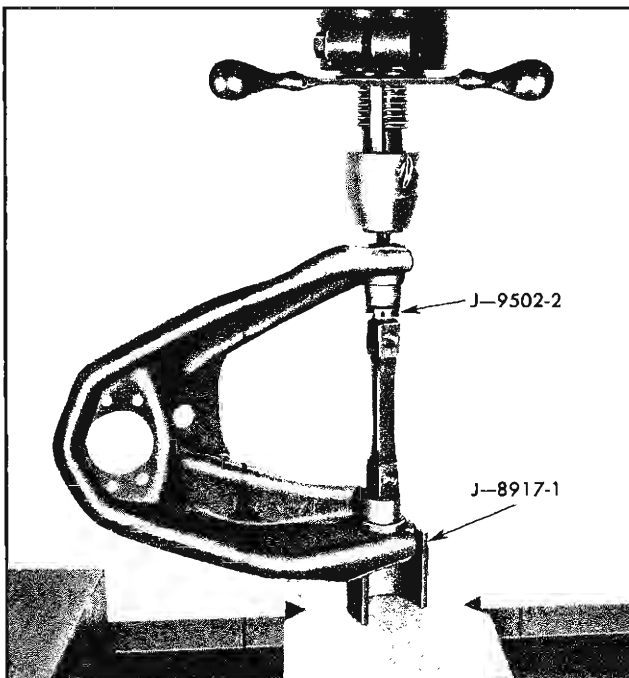

Fig. 3-23 Spacer J-9502-2 Installed
2. Support control arm, press on cross shaft and install J-9502-2 (Fig. 3-23).